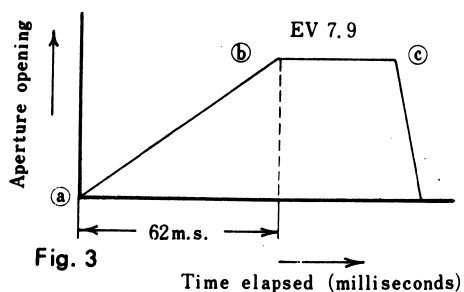

Fig. 3
Because the triangular wave-form shutter has the above-mentioned advantages, it is adopted as the between-the-lens shutter for the Hi-Matic F (168). It has a curve as shown in Fig. 3.
A bright subject (EV 7.9 to EV 17) is programmed within the area from (a) to (b) shown in Fig. 3, while a dark subject (EV 7.9 or less) is programmed within the area from (b) to (c) shown in Fig. 3.
The shutter curve is shown in Fig. 3, and programming is different according to the brightness of the subject, i. e., that of more than EV 7.9 and that of less than EV 7.9.